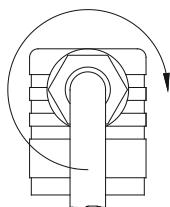

Fig. 9
- ↳ Press the core ⑧ into the cable socket ② until it locks into place.
- ↳ Put the central screw ⑥ in the cable socket ② and tighten the screwed cable gland ⑤ M16x1,5 (→ Fig. 9).